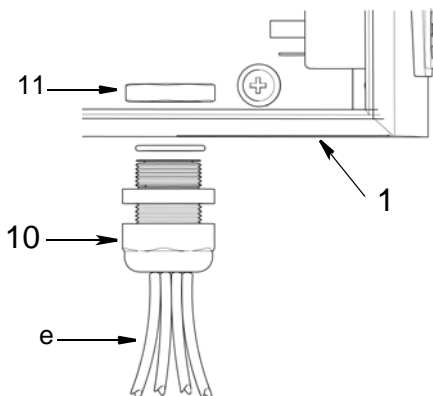

FIG. 5
4. Install cable gland in drilled hole in Enclosure (1). Install lock nut (11) on the inside of the enclosure, over threaded end of cable gland. Tighten nut securely to hold cable gland in place. Torque nut to 5.1 ft. lbs (7 N.m).
5. Feed the end of the pump wiring harness (e) through the cable gland and into the inside of the Enclosure (1) as shown in FIG. 5. Tighten compression nut and torque to 3.7 ft. lbs (5 N.m).